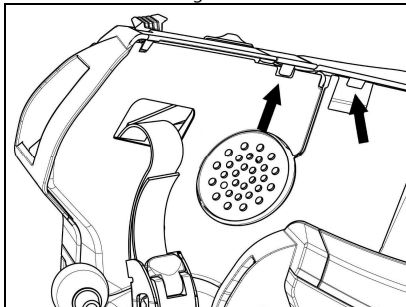

Fig. 13
- Reposition the plastic lining of the cheek padding, arranging it behind the two small stop hooks (Fig. 13)